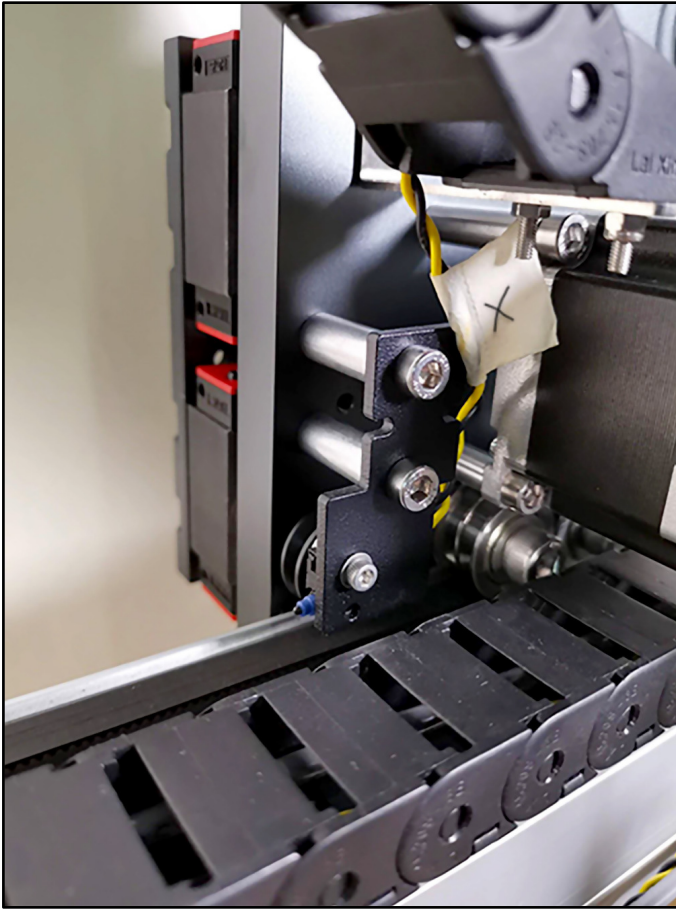

Figure 15
- M5 x 35mm Screw from your existing setup (2)
- 1-Inch Spacer from existing setup (2)
2. Use your two (2) existing M5x35 screws and two (2) 1-inch spacers to install the x-axis homing switch plate onto the rear of the HDZ. The homing switch mounts to the two threaded M5 holes on the right side of the X-motor (when viewed from the front of the machine). See **Figure 15**.